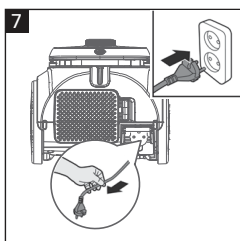

Fig. 7
- Pull the power cord to the desired length (Fig. 7). Stop pulling the cord when you see the yellow mark.